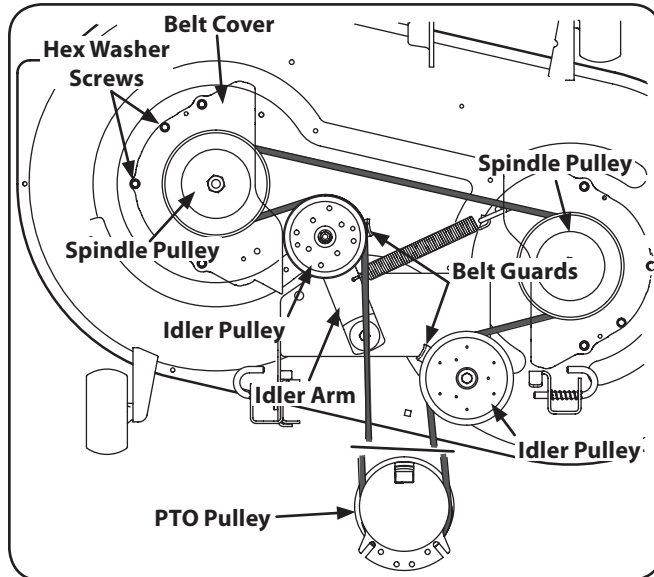

Figure 7-8
2. Remove the hex washer screws securing the belt covers to the deck. See Figure 7-8.
5. Install the new belt around the spindle pulleys as shown and reinstall the belt covers. See Figure 7-8.
7. Route the belt as shown in Figure 7-8 and then reinstall the deck (refer to Deck Installation on page 30).